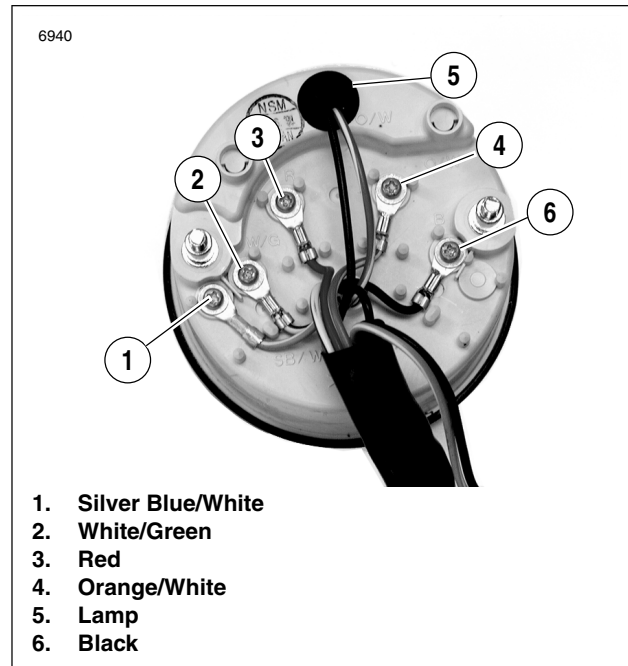
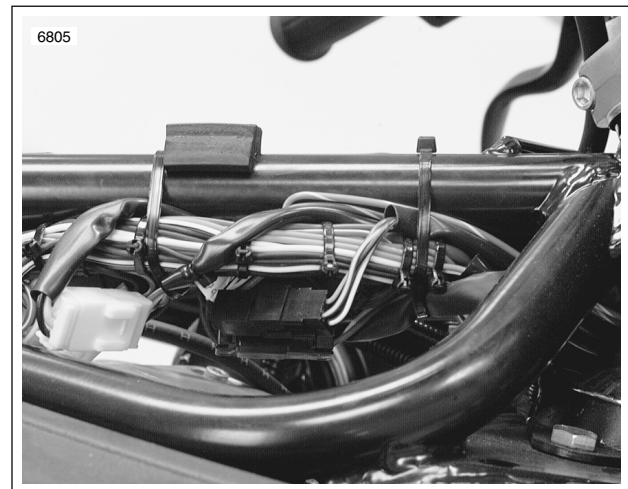

Figure 7-83. Speedometer Wiring
Figure 7-84. Speedometer Wiring Connector Locations (Approximate)
5. See Figure 7-83. Remove wires from speedometer one at a time. After removing each wire, reinstall screw immediately.
6. Pull lamp (5) from bore.
- b. Cut cable straps on wiring harness. Detach wires at plug connector. See Figure 7-84.
- a. See Figure 7-83. Attach wires at plug connector.
- c. See Figure 7-83. Insert lamp (5).